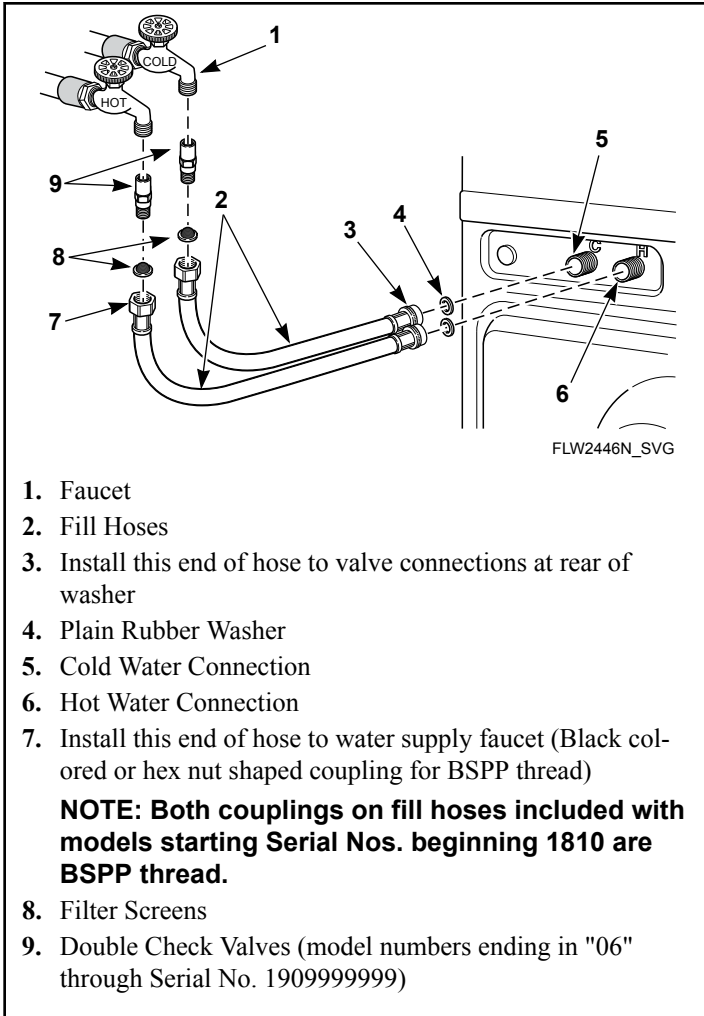

Figure 6
**Model Numbers Ending in "06"** (through Serial No. 1909999999): To comply with water regulations, this washing machine must be fitted with an approved 3/4 inch double check valve to both the hot and cold supplies between shut off valve and fill hose. Refer to *Figure 6*. Maximum water flow rate to the dispenser is 10 liters per minute. Installation Notice: Note that the Machines must be installed with Double Check Valves at the Faucets which are not supplied.